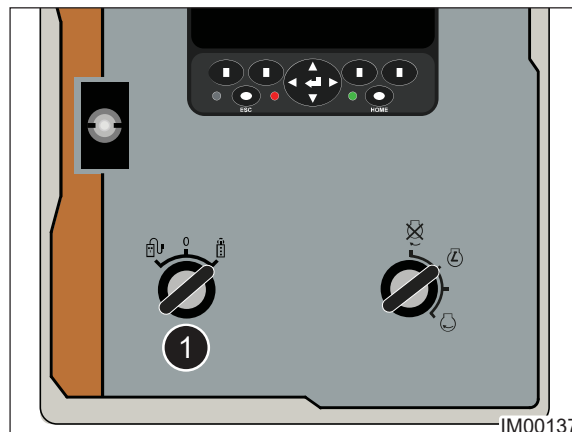

Fig: 6.10 - Track Switch - Radio Remote Position
7. Rotate the Track Switch Clockwise to the Radio Remote Handset position (Item 1, Fig: 6.10).
- Rotate the Track Switch (Item 1, Fig: 6.10) to the Off / Neutral position.